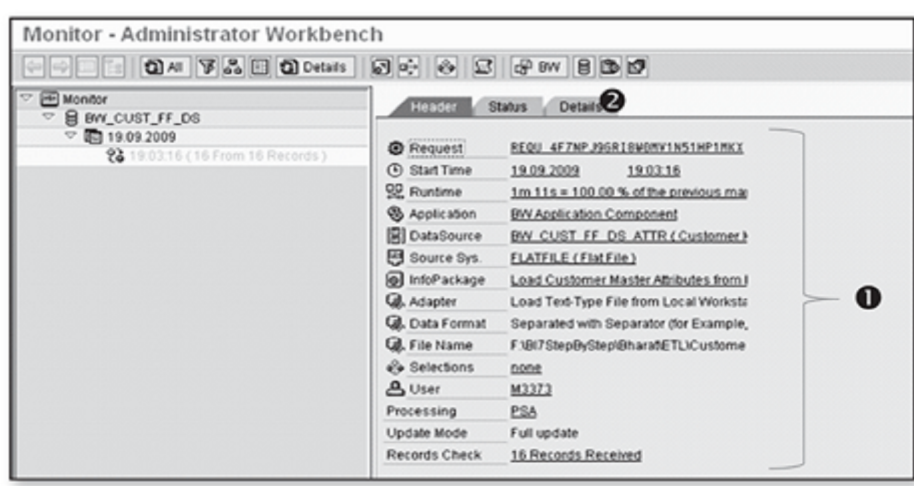
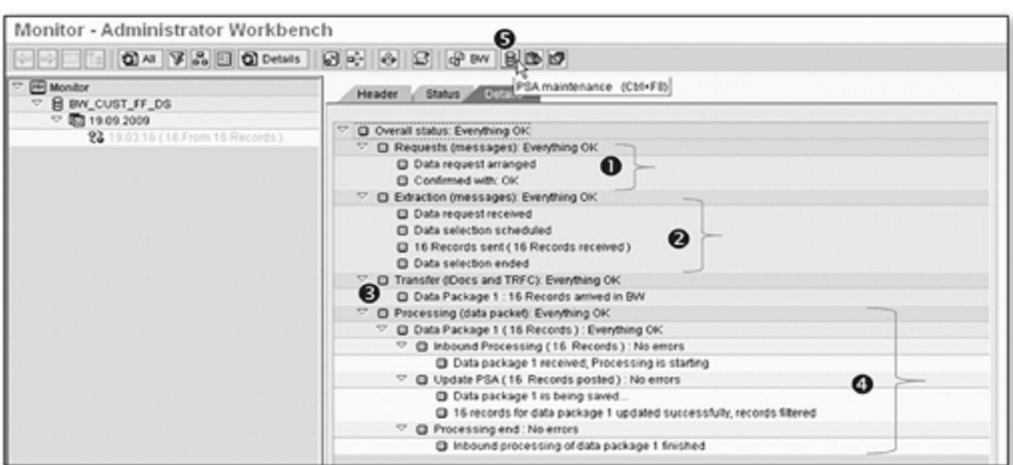
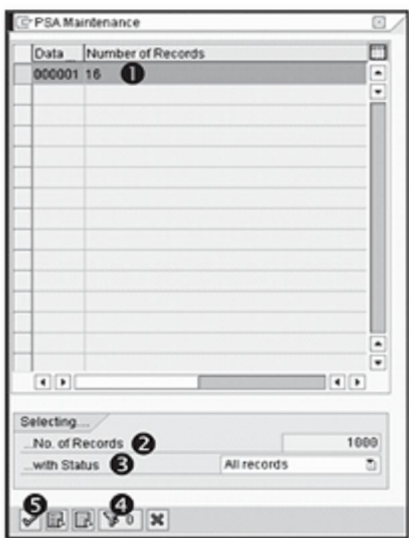
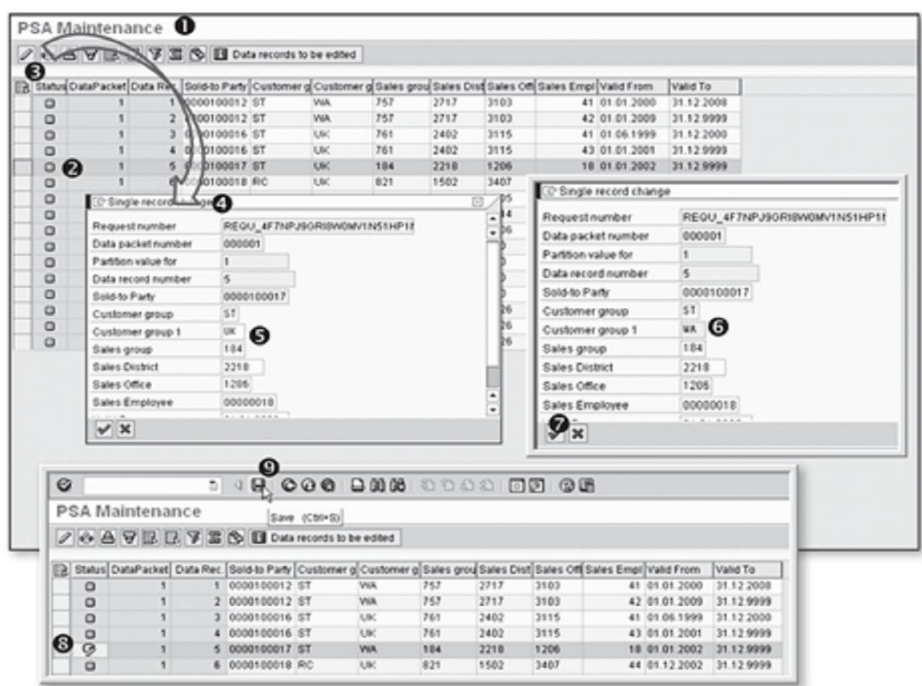

Figure 7.39 Monitor: Header Tab
Figure 7.40 Monitor: Details Tab
Figure 7.41 PSA Maintenance
Figure 7.42 Editing Records in PSA Maintenance
Click the Header tab to see the details of all of the objects involved in the extraction, as shown in Figure 7.39.
The Details tab (❷ of Figure 7.39) shows extraction details broken into various steps, as shown in Figure 7.40. When extraction is started by executing an InfoPackage, the request for extraction is sent to the source system. Messages during *this phase* (❶ of Figure 7.40), extraction messages (❷), the transfer of extracted records in the form of data packets (❸), and the processing of each data packet (❹) are all shown in Figure 7.40.
Another feature of the monitor is the ability to check the data stored in the PSA; to do this, click on the PSA Maintenance icon shown in 3 of Figure 7.40. This results in the PSA Maintenance screen shown in Figure 7.41.
The PSA Maintenance screen displays all data packets with the number of records in each one. Our example has only 1 data packet with 16 records (❶ of Figure 7.41), but, in practice, you'll probably have more than this. You can filter the records using the No. of Records field (❷) and the With Status field (❸). You can also click on the Filter icon (❹) to select specific record numbers. After you've filtered your records appropriately, select them, and click the Continue icon (❺) to view or edit them. The records are displayed as shown in ❶ of Figure 7.42.
In our example, we want to edit data record 5 of data packet 1 (❷ of Figure 7.42) to change the value of the Customer Group1 field. Select this record number, and click the Change icon (❸). This displays the Single Record Change box (❹). Select the value of the Customer Group1 field, and change it from UK to WA (❺ and ❻). Click on the Continue icon (❼); the changed value can be seen as shown in ❶. The system also indicates that the record has been changed with the icon shown in ❸ of Figure 7.42.